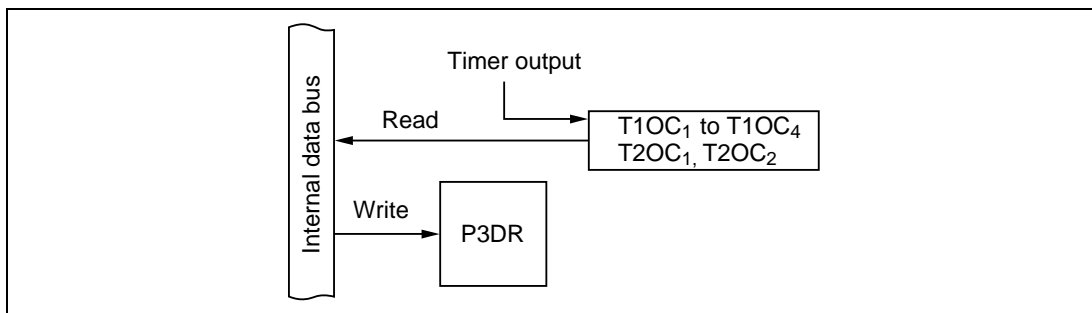

Figure 10-19 Timer Output Pins (Modes 1 to 7)
(3) Timer Output Pins (Modes 1 to 7): Figure 10-19 shows a block diagram illustrating the output function using the output compare output pins. Table 10-13 indicates register read/write data. When a pin in port 3 is used as an output compare output pin, the setting in the port 3 data direction register (P3DDR) is ignored. The value in the port 3 data register (P3DR) has no effect on the timer output. When read, P3DR returns the timer output level (T1OC₁ to T1OC₄, T2OC₁, or T2OC₂).